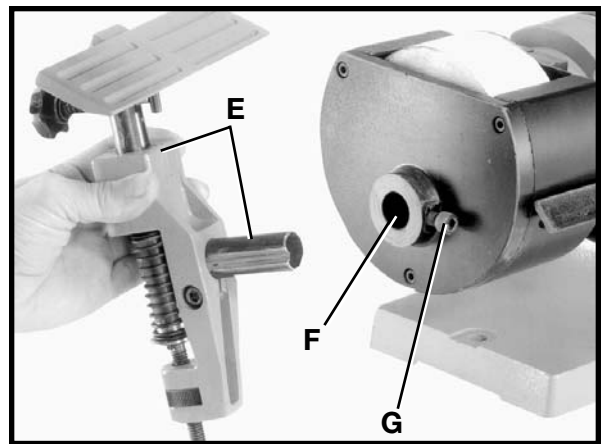

Fig. 35
3. Remove the tool rest and mounting post (E) Fig. 35, from the wet wheel side of the machine and insert post of tool rest assembly into hole (F). Tighten screw (G) into groove of mounting post. All controls and adjustments for the tool rest are explained in the section "ASSEMBLING AND ADJUSTING TOOL REST AND CHISEL HOLDER."